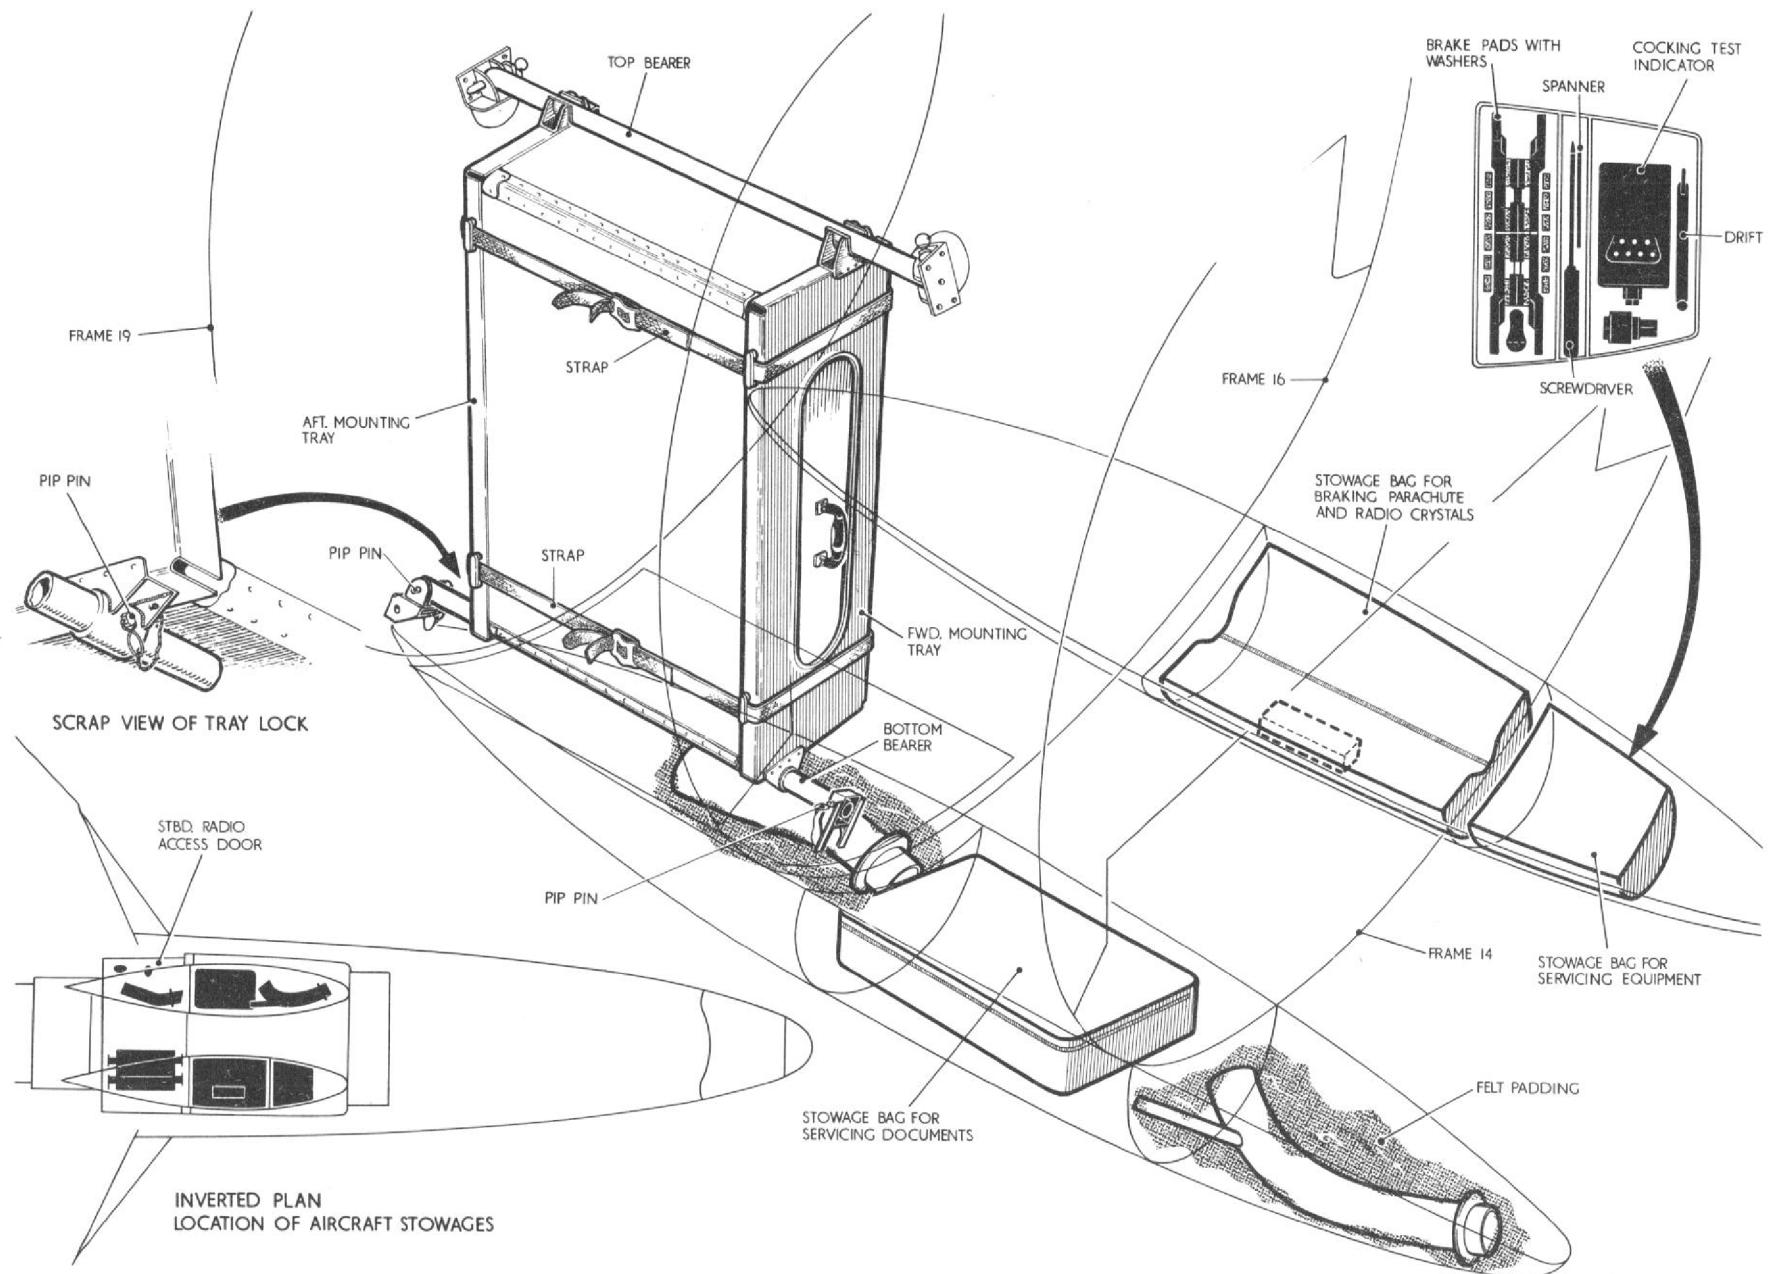

Fig.1 Stowing luggage, spare braking parachute and servicing documents etc.
Stowing luggage, spare braking parachute, servicing equipment and documents (fig. 1 and 2)
- (5) Fit the top bearer, Part No. A.258429 between the mounting brackets on frames 16 and 19 and secure with the pip-pins, Part No. A.413 attached to the mounting brackets (fig. 1).
(6) Fit the forward and aft mounting trays, Part No. C.258425 and C.258426 to the suitcase and secure firmly with the two strap assemblies, Part No. B.258427, ensuring that the straps pass through the guides on the mounting trays.
(7) Fit the bottom bearer, Part No. B. 258428, through the mounting rings at the bottom of the mounting trays and secure the aft mounting tray to the bottom bearer with pip-pin, Part No. A.518.
(8) Offer up the mounting tray, suitcase and bearer assembly into the radio bay and locate the top locating channels about the top bearer and fit the aft end of the bottom bearer into the attachment bracket for the outboard case chute at frame 19 and secure with the pip-pin. At the same time feed the forward end of the bottom bearer into the mounting bracket on the aft face of the gun package, and secure with the pip-pin.